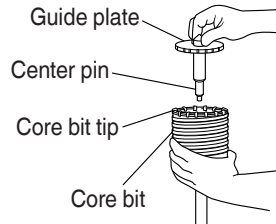

Fig. 20
- (3) Insert the center pin into the guide plate until it stops.
(4) Engage the guide plate with the core bit, and turn the guide plate to left or right so that it does not fall even if it faces downward. (Fig. 20)